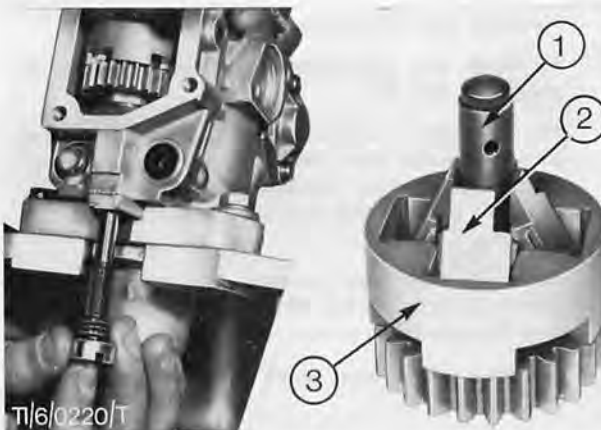

Fig. 19. Unscrew the governor shaft
17. Unscrew the governor shaft, lift out the flyweight assembly, shims and shim plate, Fig. 19.